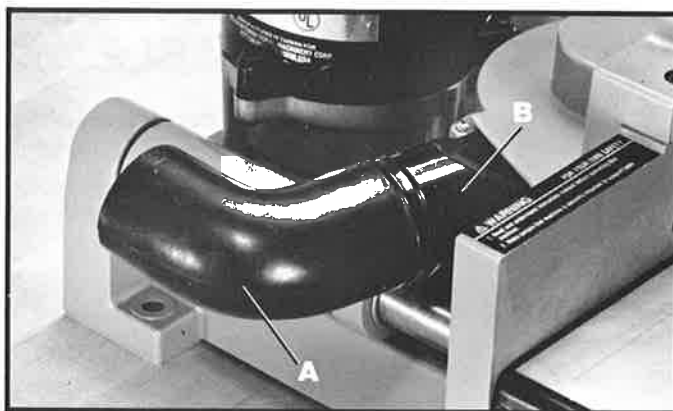

Fig. 17
A dust chute (A) is supplied for use with your plate joiner and is to be assembled to the chip exhaust (B) on the left rear side of the machine, as shown in Fig. 17. The plate joiner can be connected directly to the Delta accessory 49-255 28-gallon, all purpose vacuum cleaner by removing the dust chute (A) Fig. 17, and using the accessory 49-220 (2 1/2" x 1 1/2") adapter and the accessory 49-228 (2 1/2" x 2 1/2") coupling. The hose from the 49-255 vacuum cleaner can then be connected to the coupling.